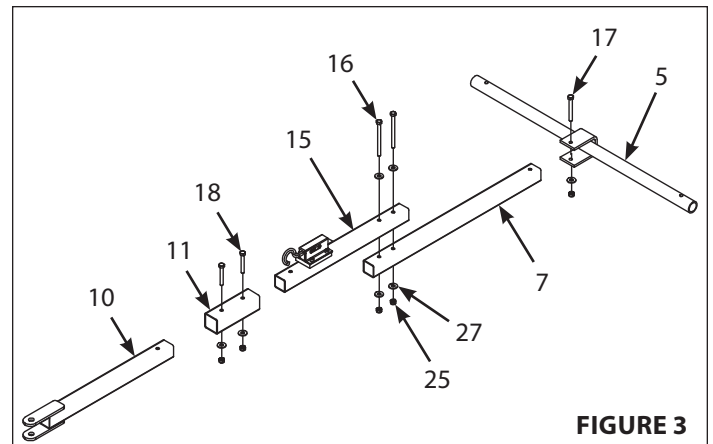

FIGURE 3
4. Insert rear tongue tube (7) into the "u-bracket" on the axle tube (5) and secure with one M8x70mm bolt (17), M8 steel washer (27) and M8 locknut (25). **SEE FIGURE 3**
5. Secure the latch tube assembly (15) to the top of the rear tongue tube (7) with two M8x100mm bolts (16), M8 steel washers (27) and M8 locknuts (25). **SEE FIGURE 3**
6. Insert the latch tube assembly (15) and the front tongue tube (10) into the connector pocket (11) and secure with two M8x60mm bolts (18), M8 steel washers (27) and M8 locknuts (25). **SEE FIGURE 3**